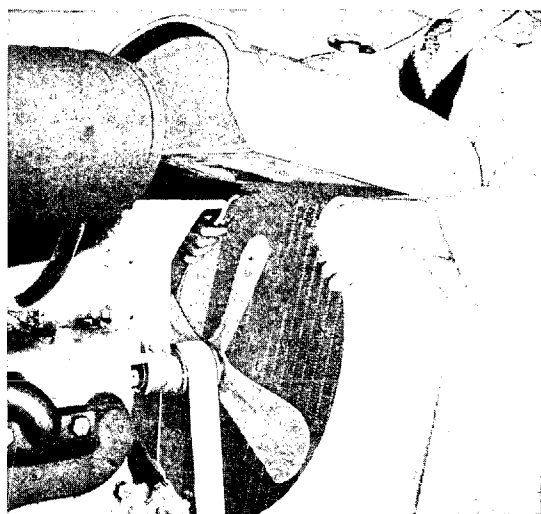

Fig. 240
5. Grasp radiator as shown in Fig. 240 and lift it off.